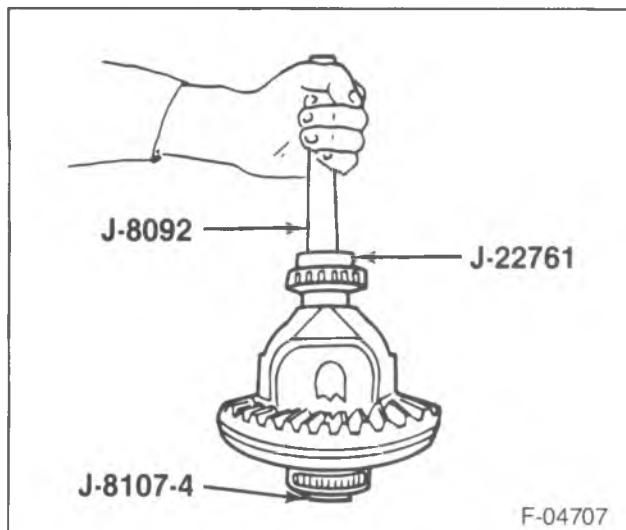

Figure 19—Side Bearing Installation
- 7. Differential side bearings (8) using J 22761, J 8107-4 and J 8092 (figure 19).
- 8. Differential case (24) to the axle housing. Refer to “Side Bearing Preload Adjustment” in this section.